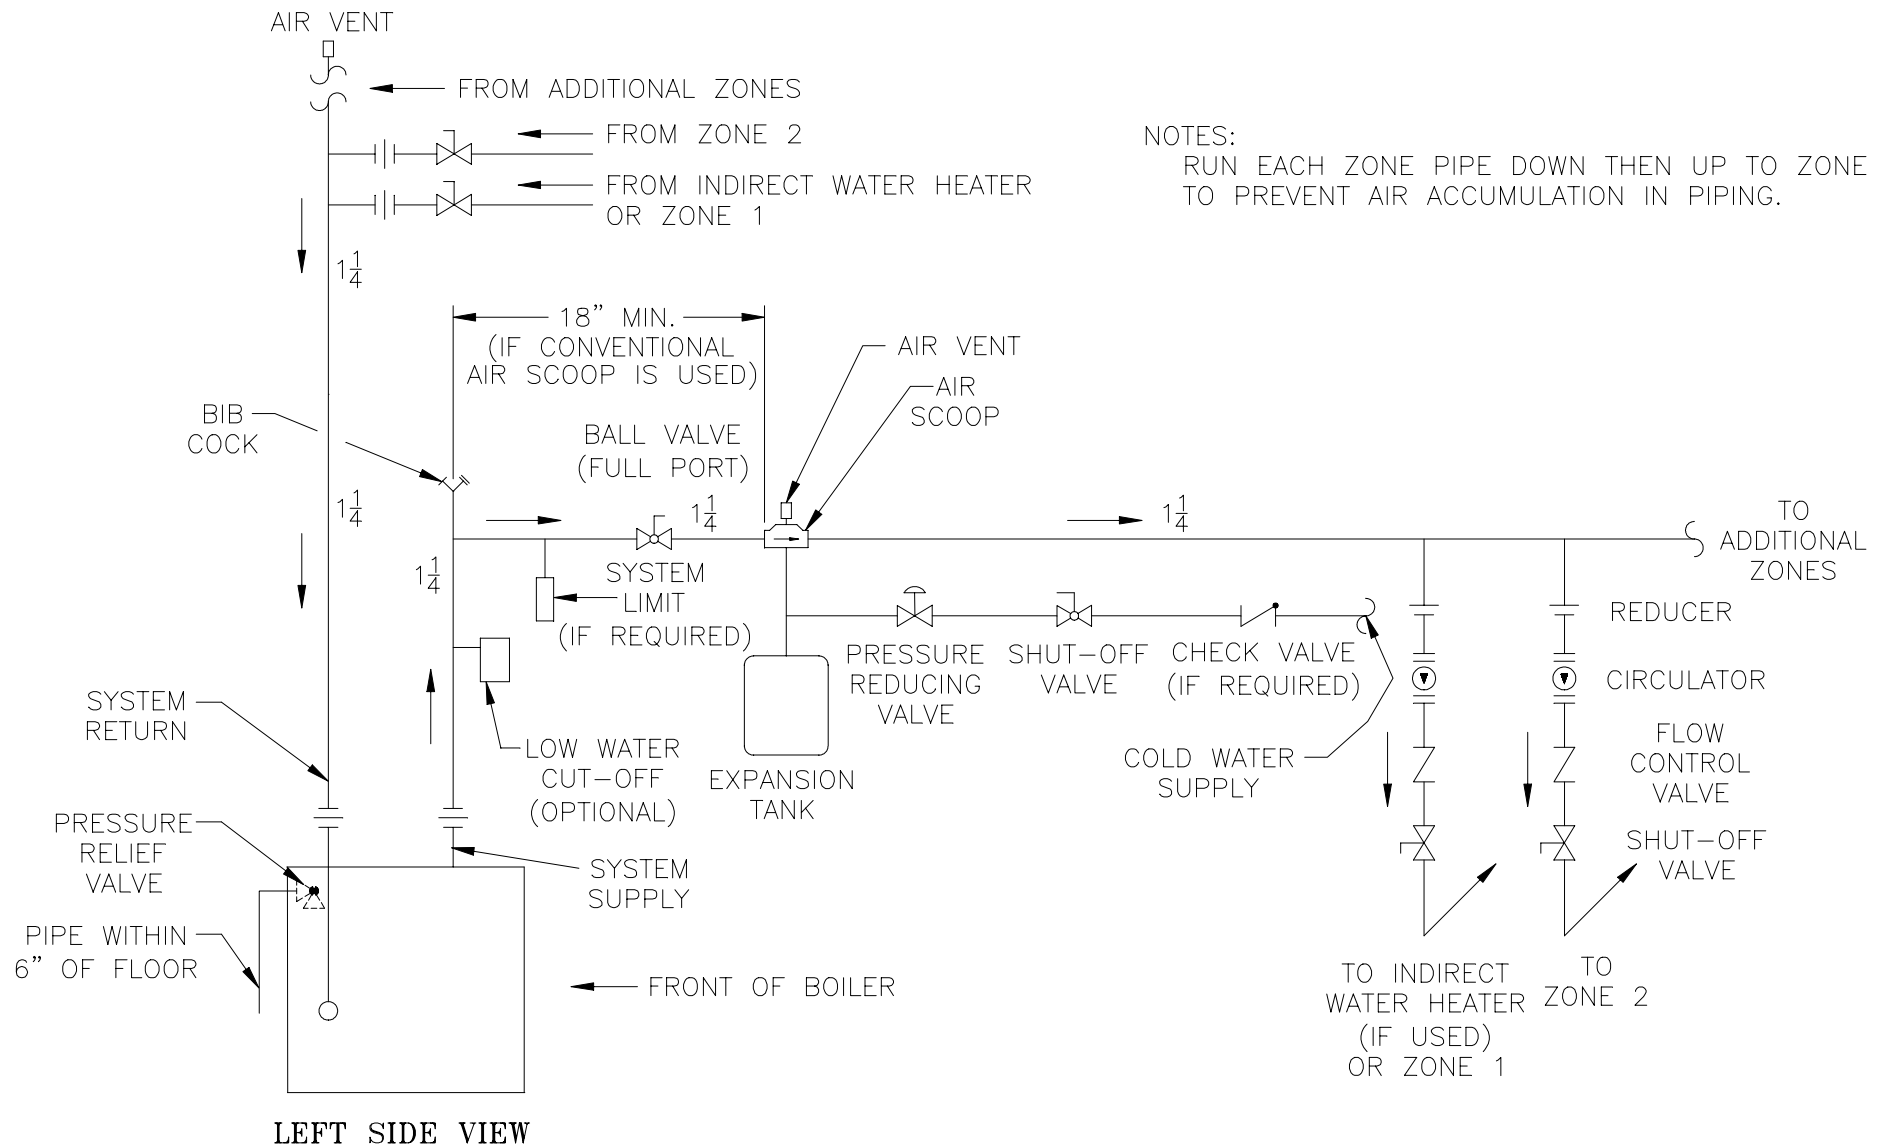

Figure 25: Water Boiler Piping for Circulator Zoned Heating System
2. For HOT WATER HEATING with Circulator (forced) see Figure 25 and 25A. Consult I=B=R Installation and Piping Guides.